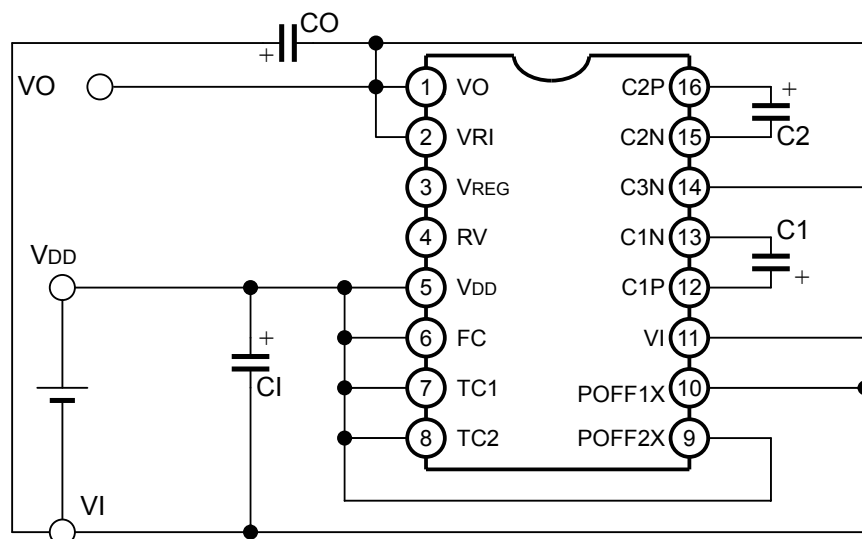

Fig.9.6 3rd boosting connection example
In this case, the regulator is not used, so the voltage containing ripple components is generated in the VO pin. Fig.9.6 shows a connection example.
- ◇ Fig.9.6 Setting conditions